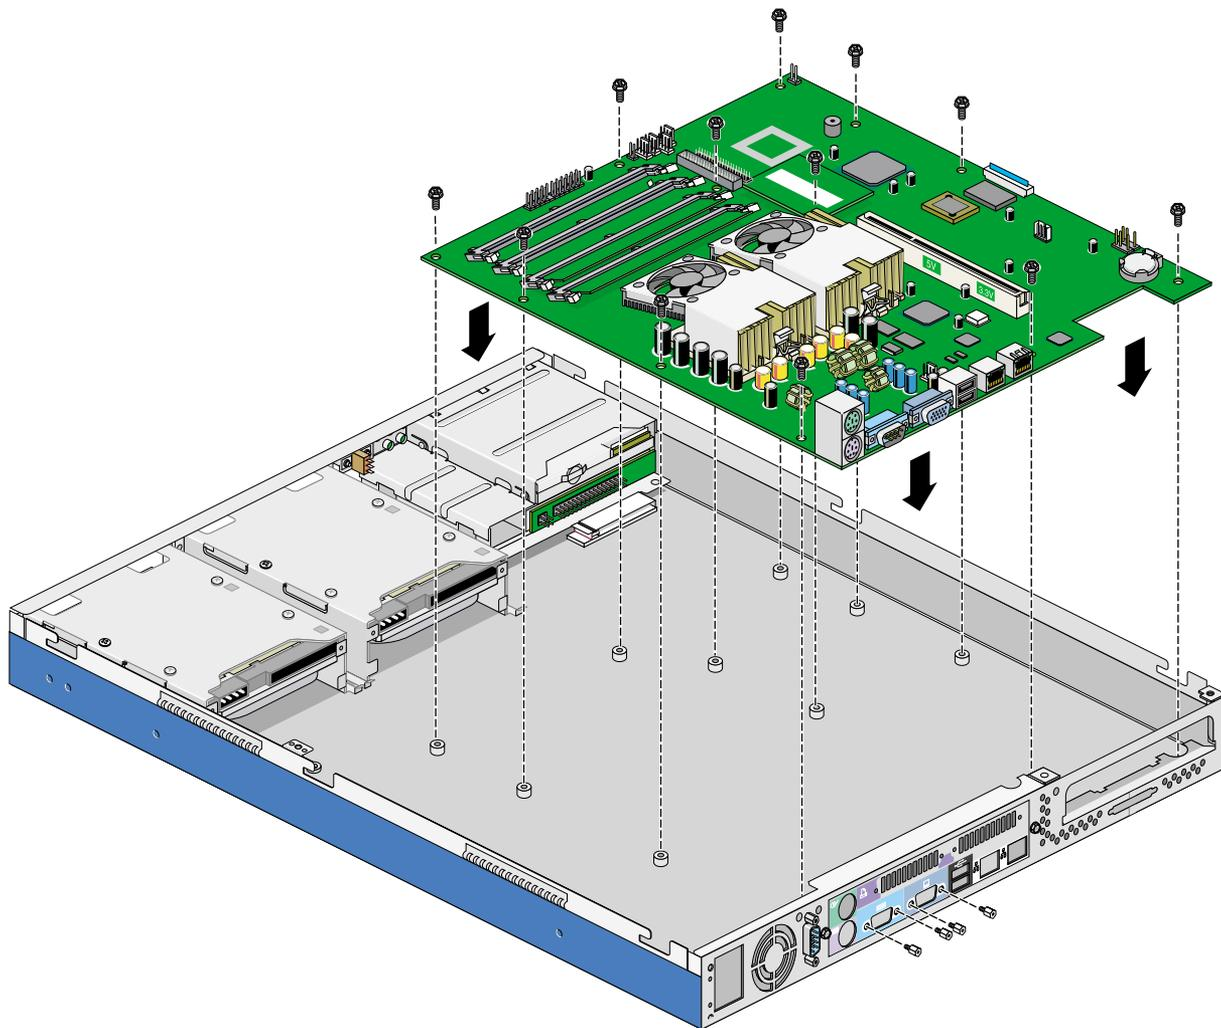

Figure 2-56 Installing the System Board
2. Tighten 12 screws on the system board, 2 jackscrews on serial port 1, and 2 jackscrews on the VGA port, as shown in Figure 2-56.